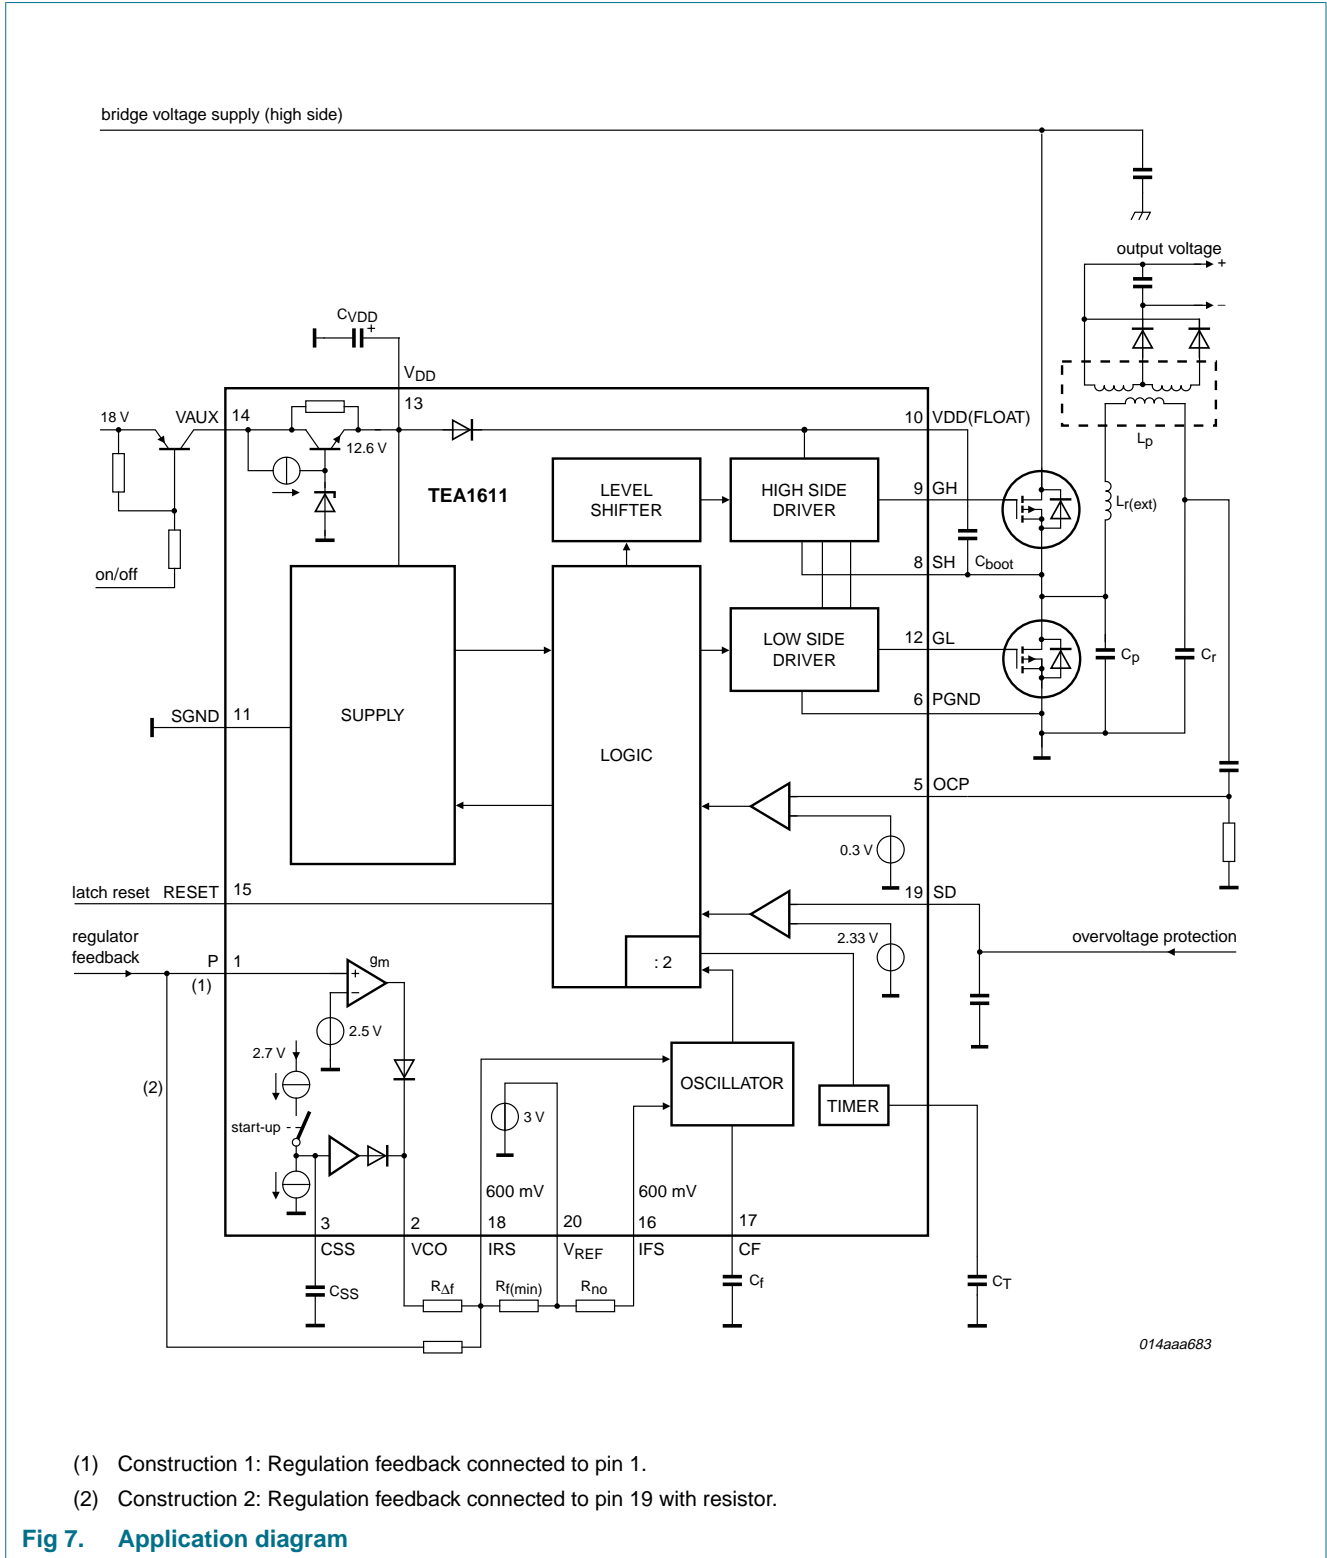

Fig 7. Application diagram
- [1] It is recommended that a buffer capacitor is placed as close as possible to the VDD pin (as indicated in Figure 7 and in the application note).
All voltages are referred to the ground pins which must be connected externally; positive currents flow into the IC; $V_{DD} = 13\text{ V}$ and $T_{amb} = 25\text{ °C}$; tested using the circuit shown in Figure 7, unless otherwise specified.
All voltages are referred to the ground pins which must be connected externally; positive currents flow into the IC; $V_{DD} = 13\text{ V}$ and $T_{amb} = 25\text{ }^\circ\text{C}$; tested using the circuit shown in Figure 7, unless otherwise specified.